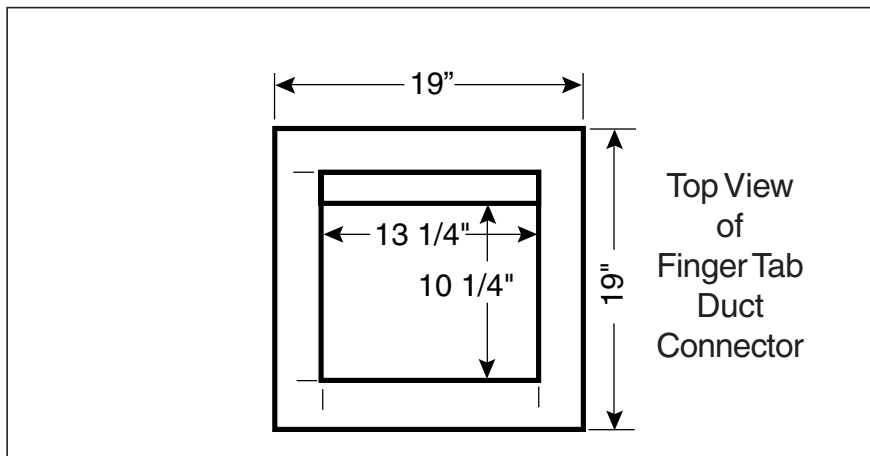

Figure 10.
- Locate center of the floor opening, measured 10" from the rear wall, and mark cut-out measuring approximately 14-1/2" by 14-1/2" ( $\pm 1"$ ) for model duct connector used (refer to Figures 10 & 11).